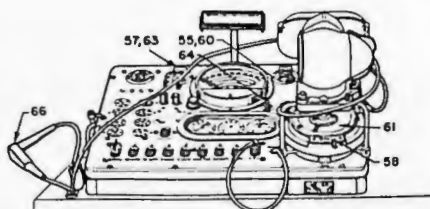

Fig. 12
60 Synchronize the points by adjusting until the broken line nearest and to the right of the peep sight is straightened into one continuous line (Figs. 12, 13 and 14).
61 The stroboscopic image will consist of 6 continuous and 6 broken lines, disregard the broken lines in making diagnosis (Figs. 12 and 14).
- 63** Momentarily run the stroboscope at high speed (Fig. 12). If the bright lines appear to dance this indicates that the points
- 64** Stop the stroboscope (Fig. 12).
- 66** Disconnect the negative interrupter lead from the negative low tension lead (Fig. 12).